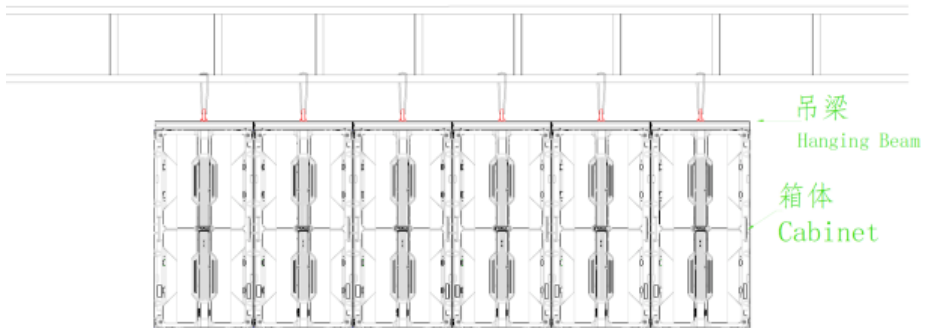

Figure 2-9 Installation of Hanging Cabinets (2)
- 2) Fasten the cabinets sequentially from middle to both sides. These cabinets can be fastened through plug screws to the hanging beam and can be fastened with each other through plug screws, as shown in Figure 2-9.